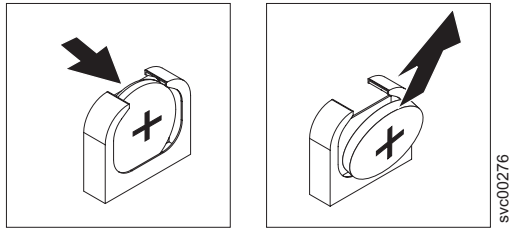

Figure 134. SAN Volume Controller 2145-8G4 CMOS battery holder
5. Remove the CMOS battery, as shown in Figure 134 on page 151: